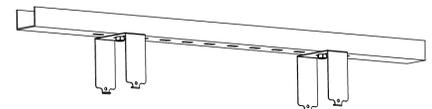

Fig. 6
1. Mount the brackets and secure them with a bolt to the strut rail or ceiling. (Fig. 6)